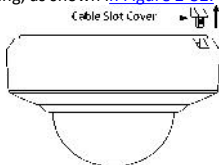

Figure 2-32 For IPC574-PTZ PTZ Camera
3. Drill a cable hole in the ceiling according to the circle A on the template if you want to route the cables through the ceiling. Pull out the cable slot cover if you want to route the cables on the surface of the ceiling, as shown in Figure 2-32.